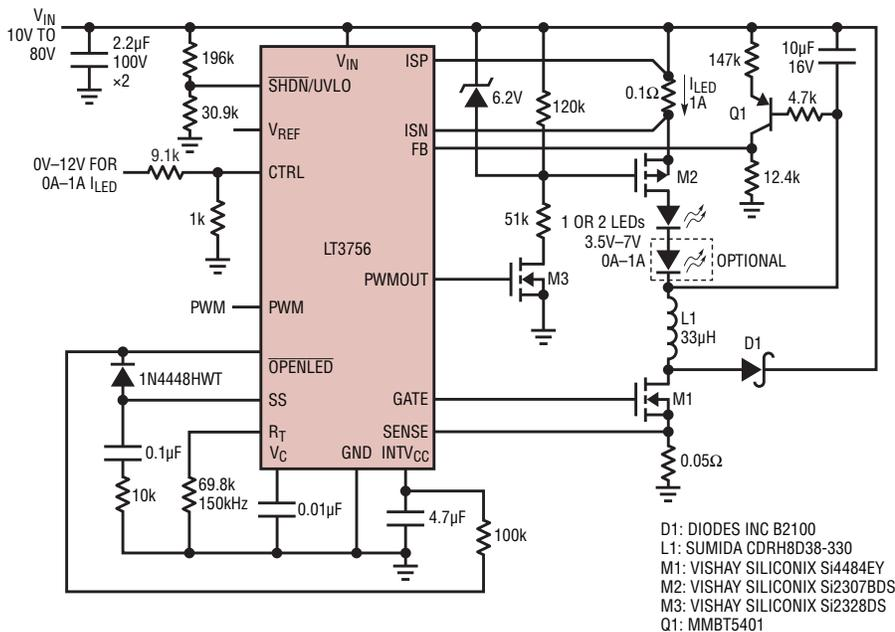

Figure 2. An 80V_{IN} buck mode LED driver with PWM dimming for single or double LEDs
a. Thermal image of the board in Figure 2 built up with synchronous FETs
b. Thermal image of the board in Figure 2 built up with boost diodes
Figure 4. The board in Figure 2 runs fairly cool (a), but when the synchronous FETs are replaced with boost diodes, the entire board heats up considerably with the diodes running significantly hotter than the FETs (b). ($V_{IN} = 12V$, $I_{LOAD} = 6A$, two minutes after power up.)
from drooping voltages to dizzyingly high voltage spikes. The buck mode LED driver in Figure 2 is perfect for such harsh environments. It operates with a wide 10V-to-80V input range to drive one or two 3.5V LEDs (7V) at 1A. In this case, both the V_{IN} pin and ISP and ISN current sense inputs can go as high as 80V.
PWM dimming requires a level-shift from the PWMOUT pin to the high side LED string as shown in Figure 2. The maximum PWM dimming ratio increases with higher switching frequency, lower PWM dimming frequency, higher input voltage and lower LED power. In this case, a 100:1 dimming ratio is possible with a 100Hz dimming frequency, a 48V input, a 3.5V or 7V LED at 1A, and a 150kHz switching frequency. Although higher switching frequency is possible with the LT3756, the duty cycle eventually has its limits. Generous minimum on-time and minimum off-time restrictions require a frequency on the lower end of its range (150kHz) to meet both the harsh high-V_{IN}-to-low-V_{LED} (80V_{IN} to one 3.5V LED) and low-V_{IN}-dropout requirements (10V_{IN} to 7V_{LED}) of this particular converter.